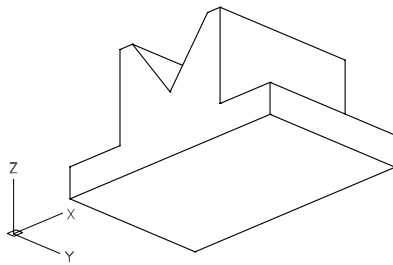

Figure 2-19 Viewing the 3D model with the angle in the XY plane as **315** and the angle from the XY plane as **-25**
1. If you set a negative angle from the XY plane, the Z axis will be displayed as a dotted line, indicating a negative Z direction, see Figures 2-19 and 2-20.